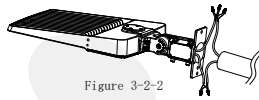

Figure 3-2-2
Step2: Connect the input wires of the fixture to the mains correctly, Figure 3-2-2;